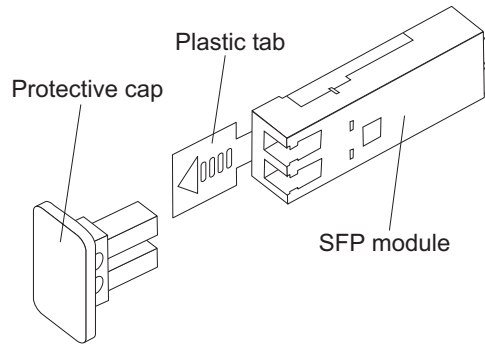

Figure 24. Installing an SFP module into the host port
4. Insert the SFP module into the host port until it clicks into place. See Figure 24 on page 41.